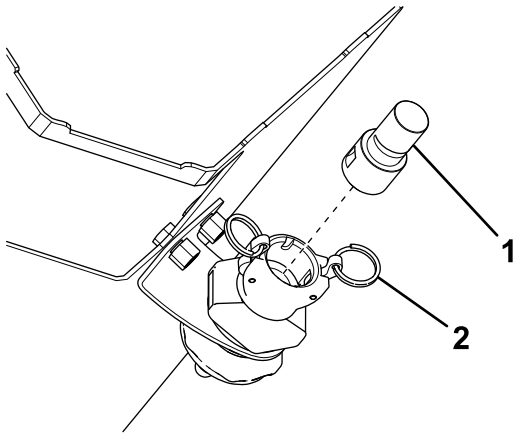

**Figure 65**
6. Locate the spray nozzle underneath the rear cover (Figure 65).